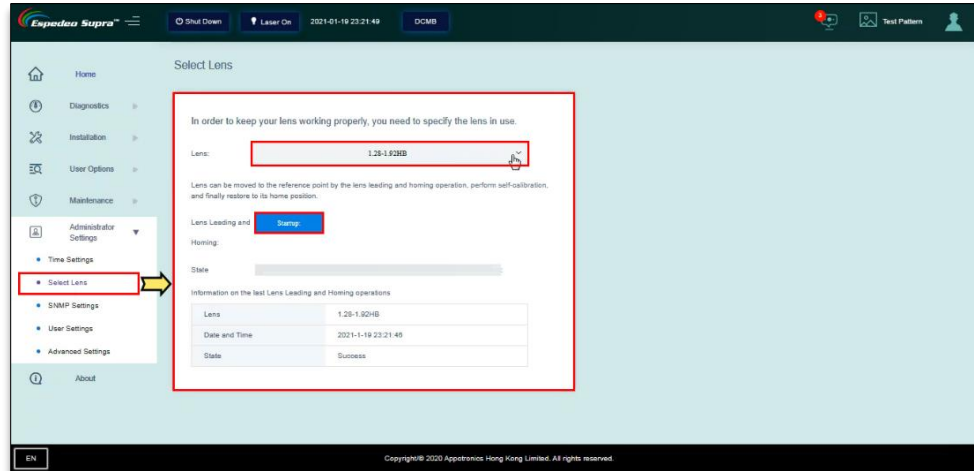

Figure 67: Select Lens and perform Lens Homing
- From the **Administrator Settings** screen of the Supra Command Center web interface; click on the **Select Lens** option. Select the correct lens model from the 'Lens:' drop-down and click the **Startup** button. Refer to **Figure 67**.